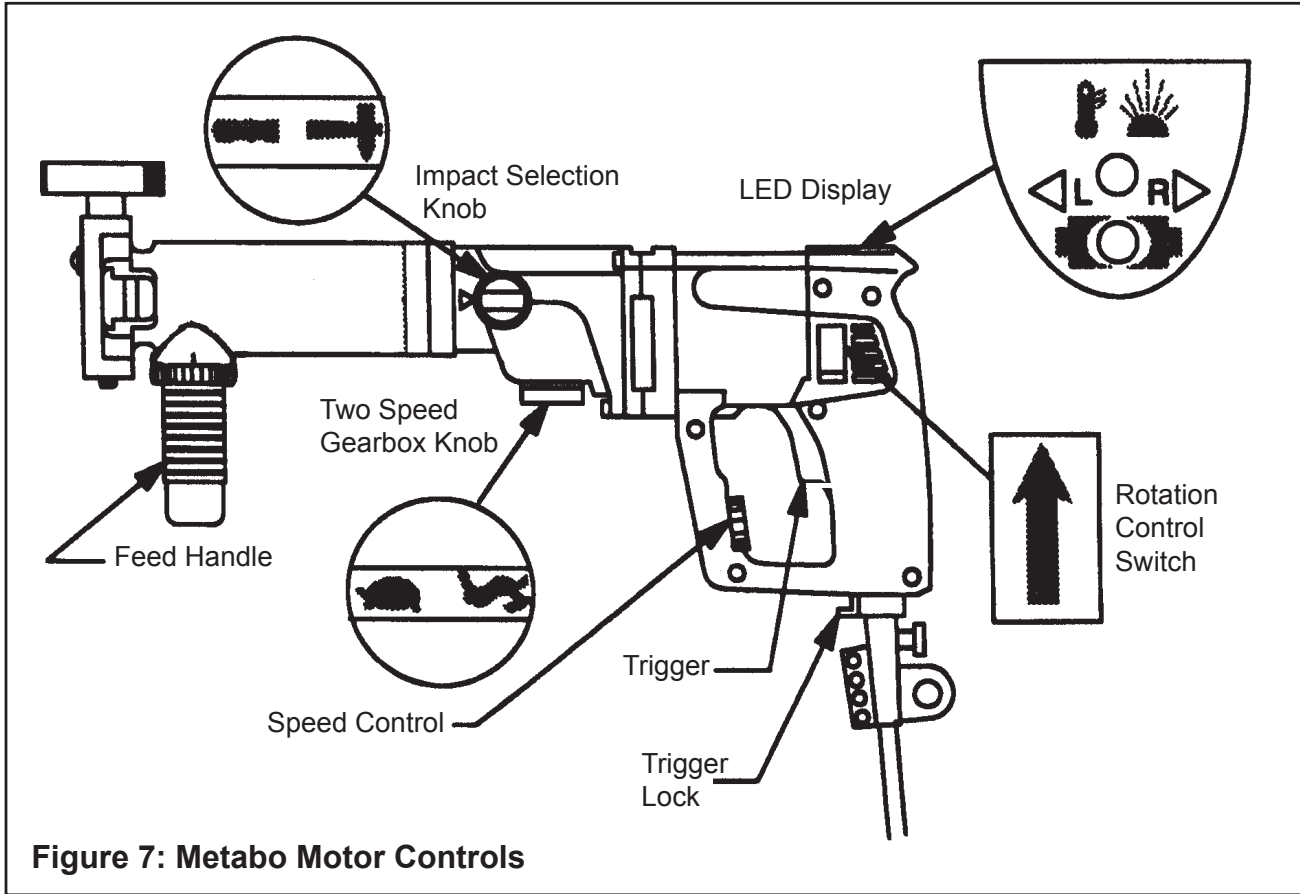

Figure 7: Metabo Motor Controls
- The Two Speed Gearbox Knob should be in the position in Fig 7. If the knob does not snap into the desired position, turn the chuck by hand slightly until the knob snaps into place.